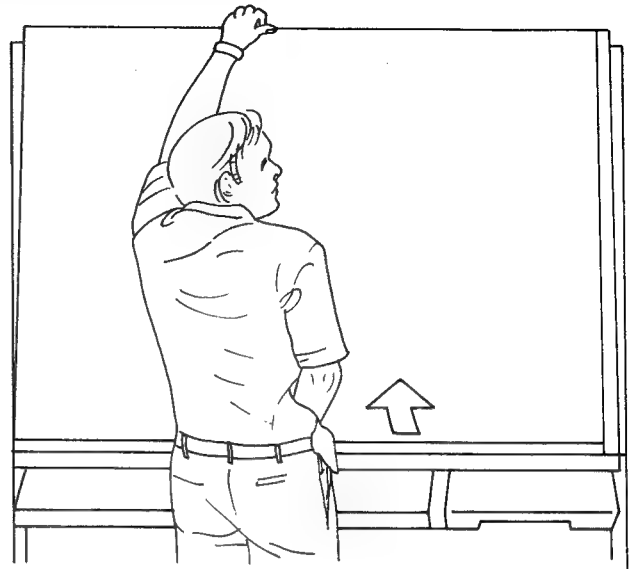

Figure 23
- (3) Remove the nine screws at the top of the board.
- (4) Pull out the bottom of a board unit. (Figure 23) Be sure that Lower Supports Lock into Position.
- (5) Hold the top and the bottom of the board at the board centre. While lifting the board a little, pull out the top, keeping the main body and the frame in parallel.